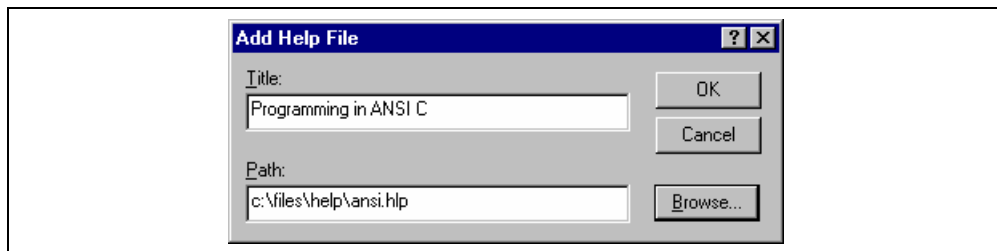

Figure 6.8: Add Help File Dialog
2. Click the “Add...” button. The “Add Help File” dialog will be displayed (figure 6.8).